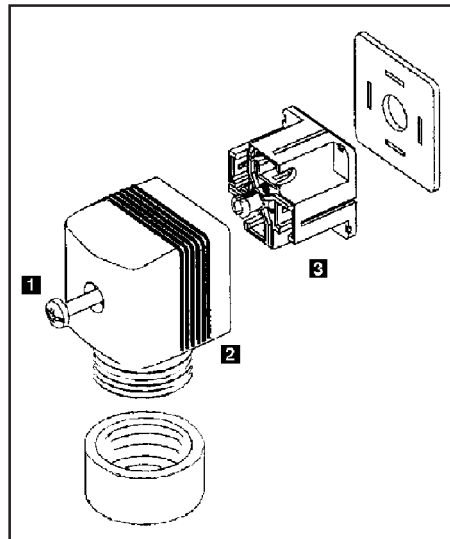

Fig. 3.4 Plug assembly
1. To open the connector remove screws (fig. 3.4).